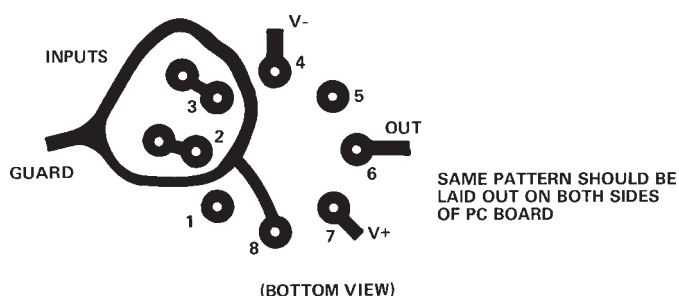
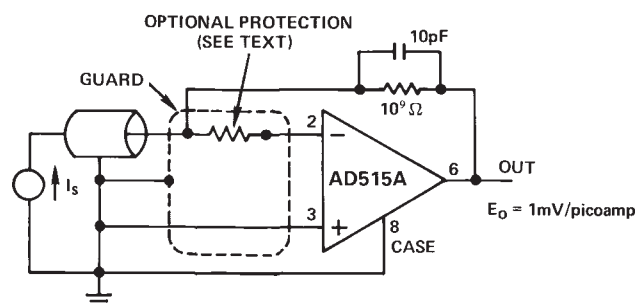

Figure 1. Board Layout for Guarding Inputs with Guarded TO-99 Package
Figure 2. Picoampere Current-to-Voltage Converter Inverting Configuration
2. The use of guarding techniques is essential to realizing the capability of the ultralow input currents of the AD515A. Guarding is achieved by applying a low impedance bootstrap potential to the outside of the insulation material surrounding the high impedance signal line. This bootstrap potential is held at the same level as that of the high impedance line; therefore, there is no voltage drop across the insulation and, hence, no leakage. The guard will also act as a shield to reduce noise pickup and serves an additional function of reducing the effective capacitance to the input line. The case of the AD515A is brought out separately to Pin 8 so it can also be connected to the guard potential. This technique virtually eliminates potential leakage paths across the package insulation, provides a noise shield for the sensitive circuitry and reduces common-mode input capacitance to about 0.8 pF. Figure 1 shows a proper printed circuit board layout for input guarding and connecting the case guard. Figures 2 and 3 show guarding connections for typical inverting and noninverting applications. If Pin 8 is not used for guarding, it should be connected to ground or a power supply to reduce noise.
3. Printed circuit board layout and construction is critical for achieving the ultimate in low leakage performance that the AD515A can deliver. The best performance will be realized by using a teflon IC socket for the AD515A; at a minimum a teflon standoff should be used for the high impedance lead. If this is not feasible, the input guarding scheme shown in Figure 1 will minimize leakage as much as possible; the guard ring should be applied to both sides of the board. The guard ring is connected to a low impedance potential at the same level as the inputs. High impedance signal lines should not be extended for any unnecessary length on a printed
Many instrumentation situations, such as flame detectors in gas chromatographs, involve measurement of low level currents from high voltage sources. In such applications, a sensor fault condition may apply a very high potential to the input of the current-to-voltage converting amplifier. This possibility necessitates some form of input protection. Many electrometer type devices, especially CMOS designs, can require elaborate Zener protection schemes that often compromise overall performance. The AD515A requires input protection only if the source is not current limited and, as such, is similar to many JFET-input designs. The failure mode would be overheating from excess current rather than voltage breakdown. If the source is not current limited, all that is required is a resistor in series with the affected input terminal so that the maximum overload current is 0.1 mA (for example, 1 M $\Omega$  for a 100 V overload). This simple scheme will cause no significant reduction in performance and give complete overload protection. Figures 2 and 3 show proper connections.
The conductor-to-shield capacitance of coaxial cable is usually about 30 pF/foot. Charging this capacitance can cause considerable stretching of high impedance signal rise time, thus canceling the low input capacitance feature of the AD515A. There are two ways to circumvent this problem. For inverting signals or low level current measurements, the signal is carried on the line connected to the inverting input and shielded (guarded) by the ground line as shown in Figure 2. Since the signal is always at virtual ground, no voltage change is required and no capacitances are charged. In many circumstances, this will destabilize the circuit; if so, capacitance from output to inverting input will stabilize the circuit.
Figure 2 shows a standard low level current-to-voltage converter. To obtain higher sensitivity, it is obvious to simply use a higher value feedback resistor. However, high value resistors above  $10^9 \Omega$  tend to be expensive, large, noisy and unstable. To avoid